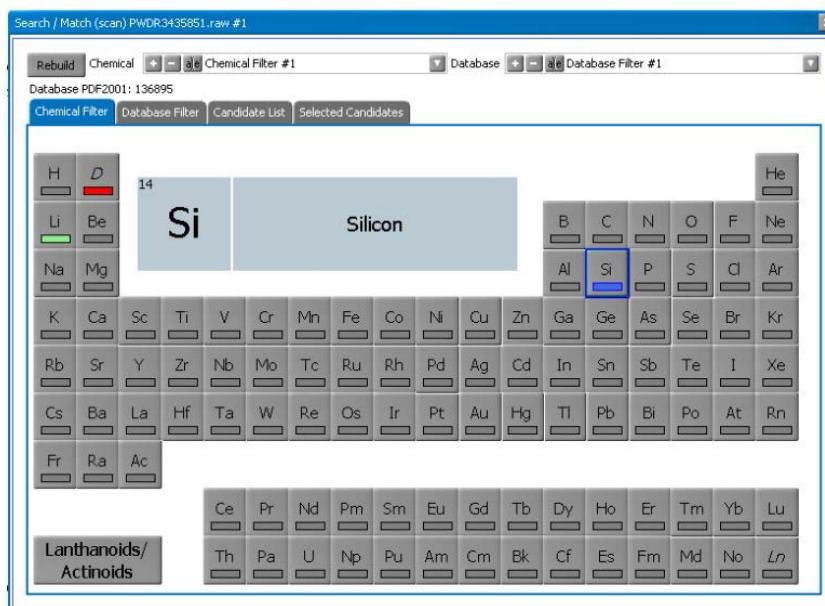

Figure 6. Chemical Filter Tab.
2.	Select desired search parameters (see suggestions below; Figures 6, 7, 8).
A chemical filter can be set for any element in the periodic table (Figure 6).